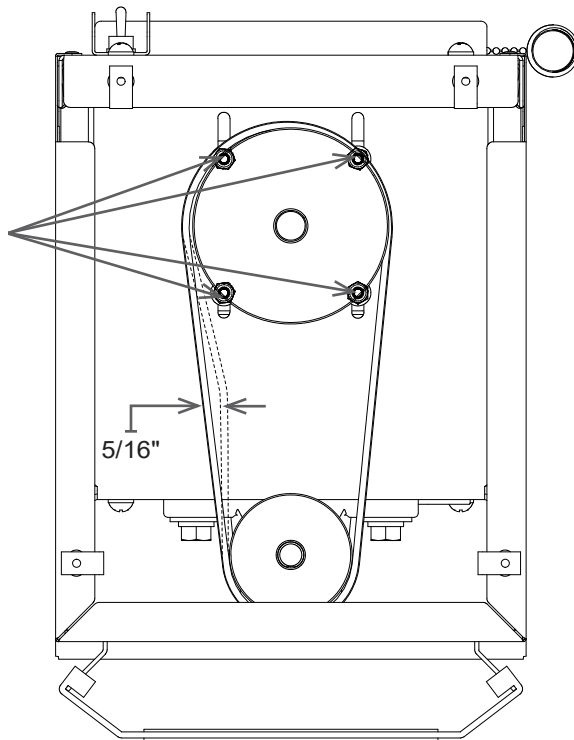

Figure 3. Location of Belt Adjustment Screws
3. Depress belt with your finger at the midpoint between the pulleys (see Figure 3). When adjusted properly, the belts should depress $5/16"$ with approximately five pounds of pressure.
4. Adjust to the proper tension by resetting the four adjustment screws (see Figure 3) holding the motor housing in place.